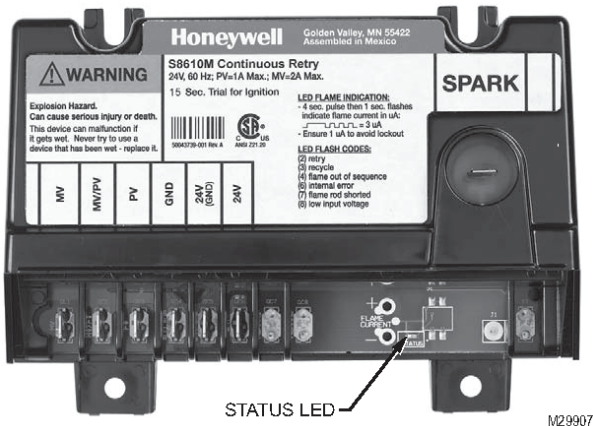

Figure 37A: Location of LED
2. Enhanced Electronic Ignition Module with single Status LED indicator. See Figure 37A “Location of LED”.